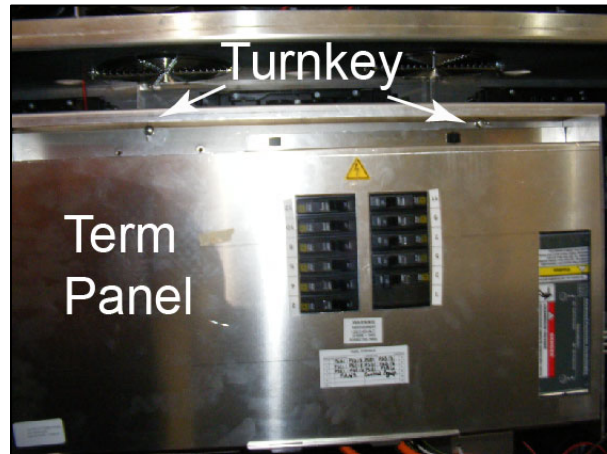

Figure 15: Term Panel
1. Locate the two $\frac{1}{4}$ turnkeys along the top of the term panel. Refer to **Figure 15**.